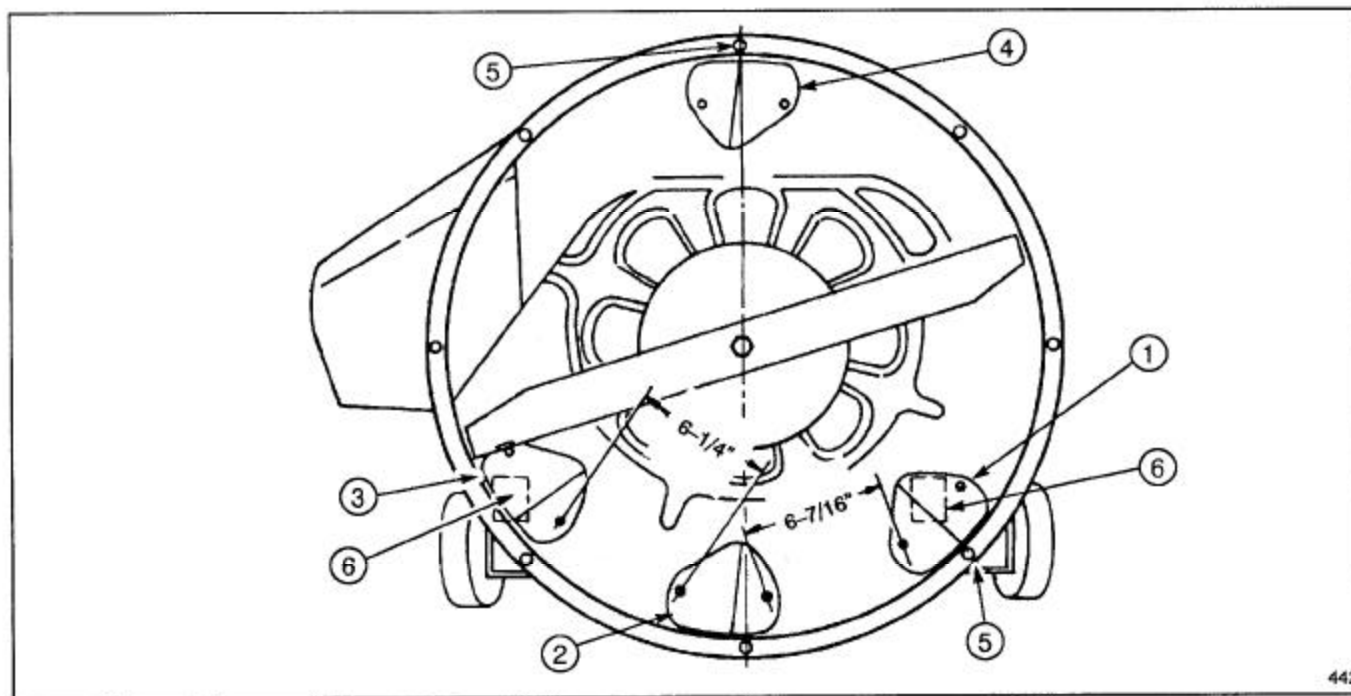

Figure 6
MARK AND DRILL HOLES FOR KICKER INSTALLATION (Fig. 6)
1. Position first kicker on underside of mower deck with highest point of kicker directly aligned with hole for mounting deck ring as shown in Figure 6.
3. Line up the second kicker in a position roughly similar to that shown in Figure 6, making sure the
5. Line up the third kicker in a position roughly similar to that shown in Figure 6, making sure the kicker is firmly lined up with the deck wall. To precisely locate the third kicker, measure the distance from the left hole of the second kicker to the right hole of the third kicker. The distance should be 6-1/4". Mark hole locations.
6. Position fourth kicker on underside of mower deck with highest point of kicker directly aligned with hole for mounting deck ring as shown in Figure 6. Mark hole locations.
1. Position the kickers as shown in Figure 6, aligning holes in kickers with holes in deck.